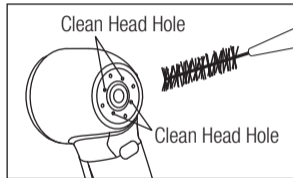

Fig. 5
- 2) Remove dirt and debris from the Clean Head Holes with the cleaning wire and brush (supplied as an accessory for the handpiece) (Fig. 5).